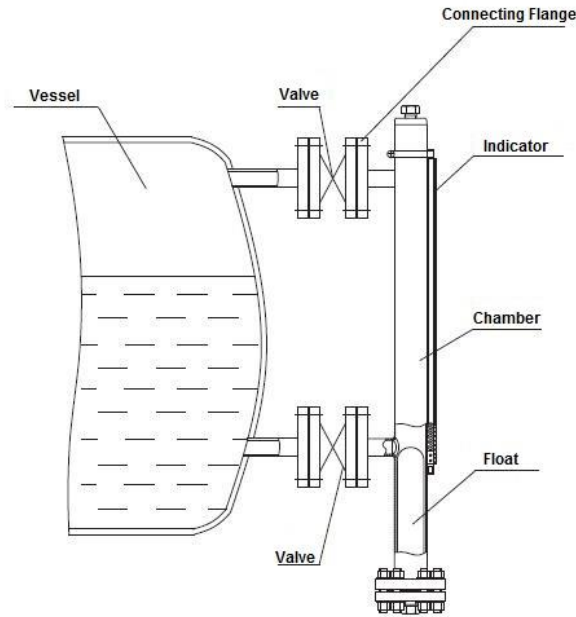

Figure 7-1 Installation process
6.3 Installation operation process-Figure 7-1, 7-2